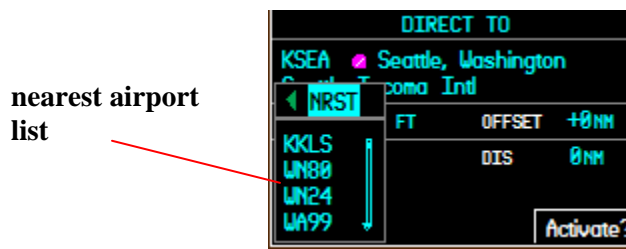

Figure 6.6
- 5.3 when the FPL list header is highlighted (see Figure 6.5), click on the right small FMS knob to close the fpl window and open the nearest airport list window (Figure 6.6).